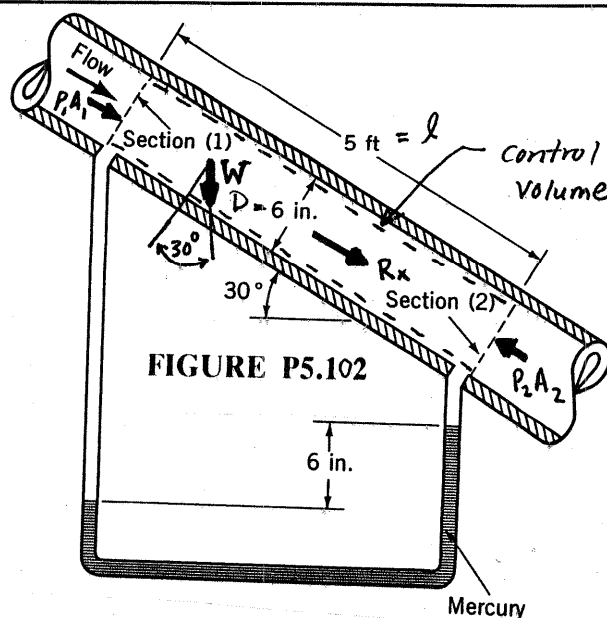

FIGURE P5.102
5.102 Water flows steadily down the inclined pipe as indicated in Fig. P5.102. Determine the following: (a) The difference in pressure $p_1 - p_2$. (b) The loss per unit mass between sections (1) and (2). (c) The net axial force exerted by the pipe wall on the flowing water between sections (1) and (2).